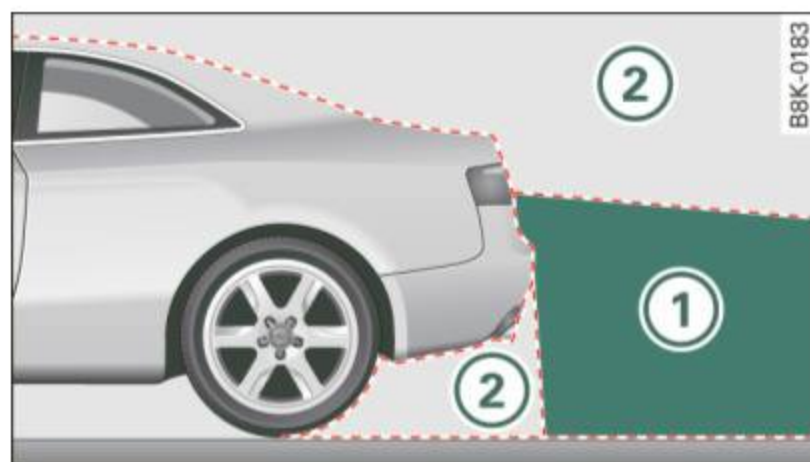

Fig. 148 Side view:
The rear-view camera section appearing in the MMI Display is approximately the same as the coverage area represented in ⇒ fig. 147 or ② in ⇒ fig. 148. Objects located in the rear-view camera's uncovered area ① ⇒ fig. 148 or in the close vicinity of the bumper are not recognized.
- The rear-view camera does not show the entire area behind the vehicle ⇒ *page 140, fig. 148*. Watch out especially for small children and animals. The rear-view camera cannot always detect them, posing risk of an accident!
- The rear-view camera does not show the entire area behind the vehicle ⇒ *page 140*, fig. 148. Watch out especially for small children and animals. The rear-view camera cannot always detect them, posing risk of an accident!